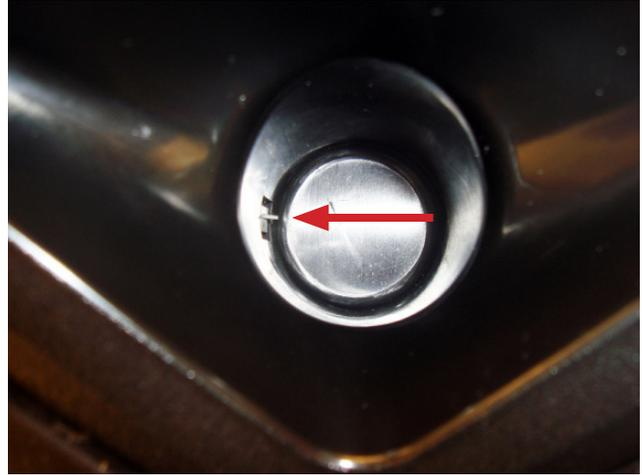

Figure 31
11.1 Figure 31 shows the pole receptacle and the micro switch that applies an additional 3dB of volume when the S1 Pro is mounted on a pole.